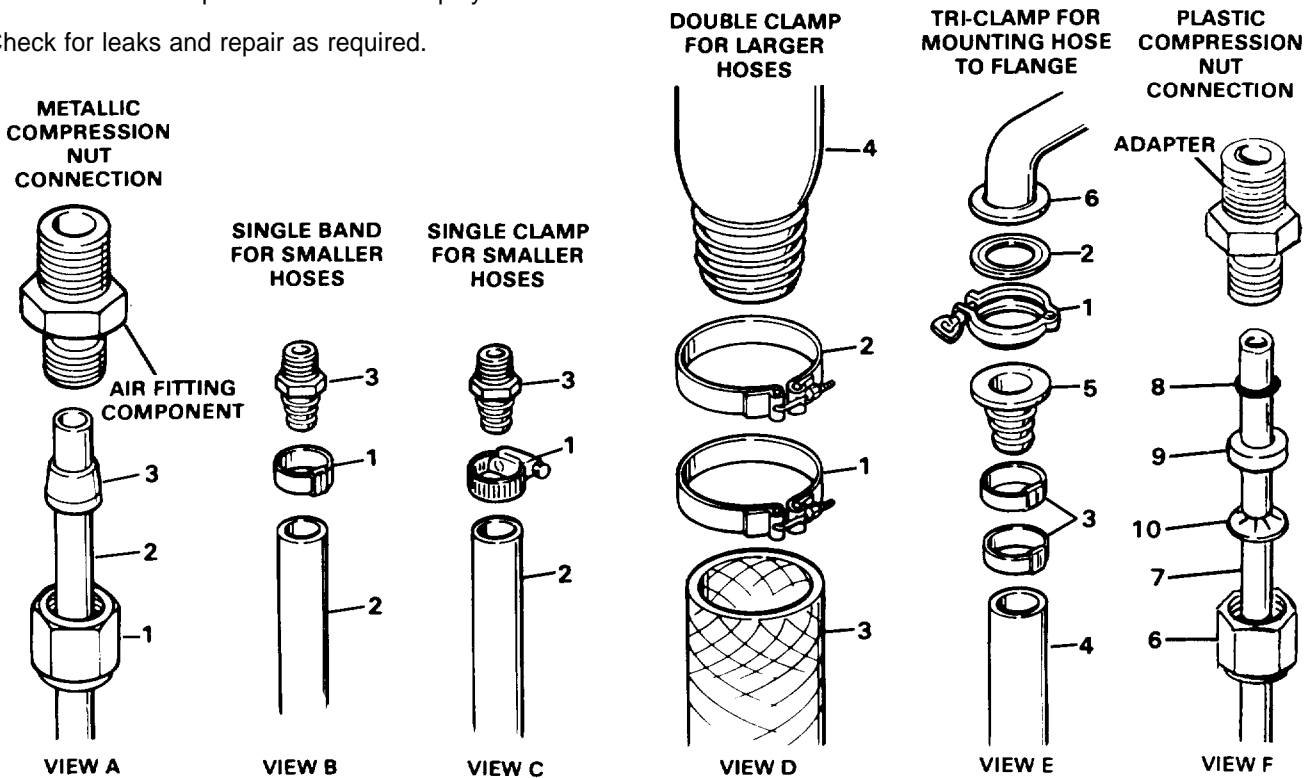

Figure 4-27. Low Pressure Water Tubing
All removal and installation instructions are keyed to the Views A through F which comprise Figure 4-27. Each method shown is typical of a specific kind of connection.
a. Refer to Figure 4-27, View A, and replace a compression nut connection as follows:
- (1) Unscrew nut (1) and remove tube (2) from fitting. Compression fitting (3) will come off with tube (2).
- (2) If necessary, cut off damaged portion of tube (2) or replace the tube.
- (3) Slide nut (1) on tube (2) with threaded end of nut toward the fitting.
- (4) Slide conical compression nut (3) on tube (2) with small (cone) end of compression nut toward fitting.
- (5) Place antiseize tape on fitting.
- (6) Insert tube (2) in fitting until tube is firmly against the internal shoulder of fitting.
- (7) Tighten nut (1). This will push compression nut (3) to clamp tube (2) in fitting.
b. Refer to Figure 4-27, View B, and replace a band connection as follows:
- (1) Carefully cut the hose (2) at a point beneath band(1) and just below the joint that fitting (3) reaches within the \_ hose.
- (2) Cut the band and the remaining hose off fitting (3).
- (3) If sufficient hose remains, proceed with step 4. If not, replace the hose and proceed with step 4.
- (4) Insert the "dart" end of fitting (3) in hose (2), making sure the fitting is fully inserted in the hose.
- (5) Using a bander, place one or more bands over the hose, clamping the hose to the fitting. Position the bands about 1/2 inch down from the fitting flange.
c. Refer to Figure 4-27, View C, and replace a single clamp connection as follows:
- (1) Loosen hose clamp (1) and slide it downward on hose (2).
- (2) Remove fitting (3) from hose (2). It maybe necessary to cut hose (2) off, or to split the hose in order to get the hose off fitting (3).
- (3) If hose is damaged, cut off damaged portion. If hose is now too short, replace hose.
- (4) Slide band (1) over hose (2).
- (5) Insert fitting (3) fully into hose (2), push clamp (1) over the hose and onto fitting (3) and tighten clamp (1 ), using a screwdriver. Position clamp about 1/2 inch down from fitting flange.
d. Refer to Figure 4-27, View D. The procedure for replacing a double clamp connection is identical to the procedure for replacing a single clamp connection except that two clamps are installed. See the procedure for View C.
e. Refer to Figure 4-27, View E, and replace a tri-clamp connection as follows:
(1) Loosen the clamp screw on tri-clamp (1) and remove clamp (1) and gasket (2).
(2) Cut off hose (4) beneath fitting (5) and banding (3).
(3) Cut banding (3) and remaining hose off fitting (5).
(4) If hose is now damaged or too short, replace hose.
(5) Insert fitting (5) in hose (4) and band in two places (the same number of bands should be applied as was removed).
(6) Place tri-clamp (1) and gasket (2) in position on the flanges of fittings (5 and 6) and tighten tri-clamp (1).
f. Refer to Figure 4-27, View F and replace compression nut fitting as follows: